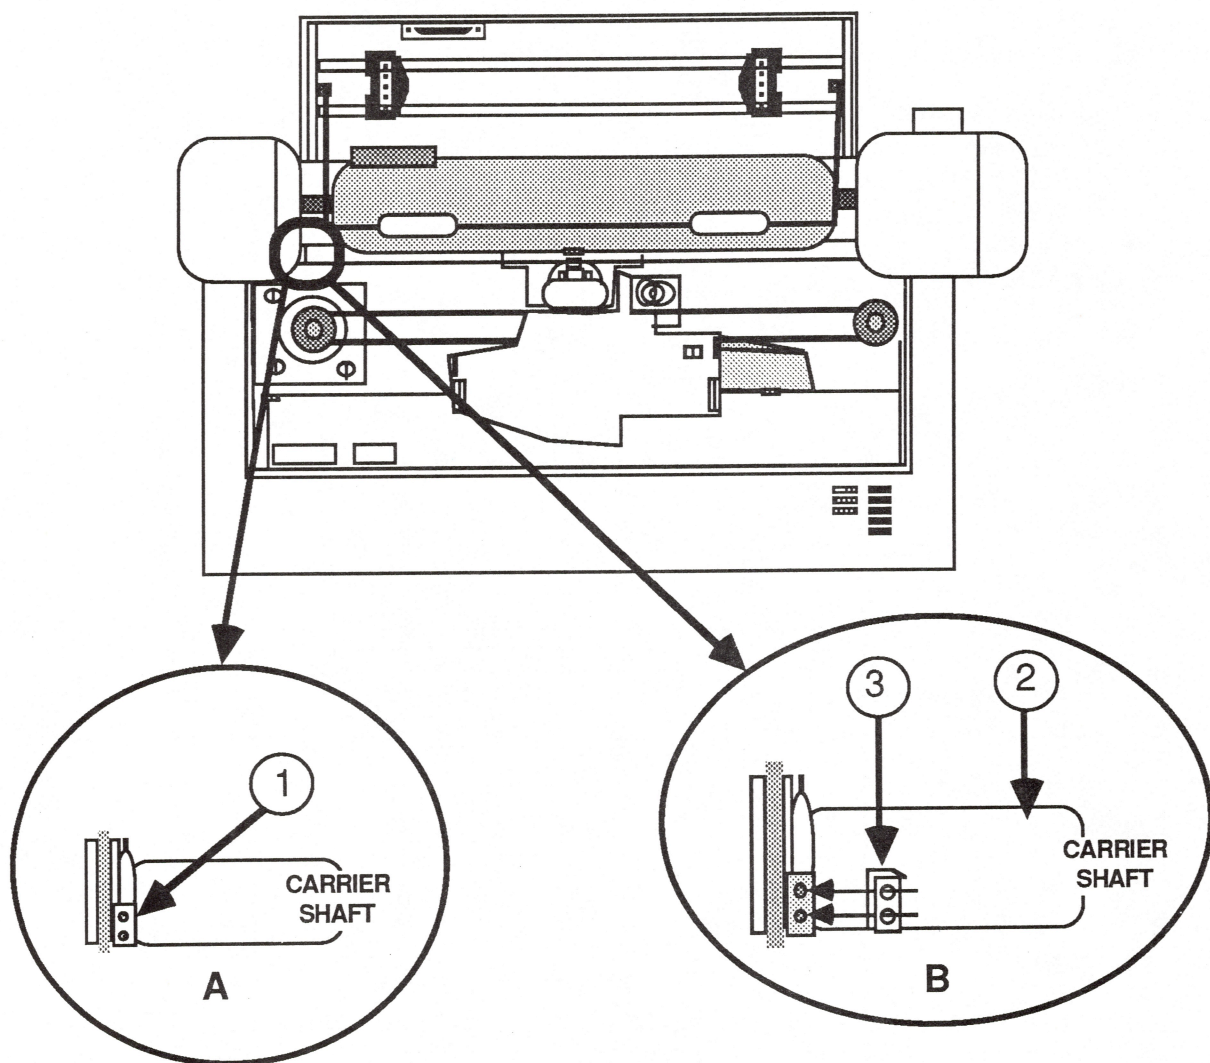

FIGURE 43
1. Look at the left side of the carrier bar (see Figure 43, Detail A, #1).
2. Push the carrier bar towards the rear of the machine (see Figure 43, Detail B, #2) and, using needlenose pliers, install the shim on the left side of the carrier bar, first inserting the two protruding tabs into the holes on the shim (see Figure 43, Detail B, #3). Slide the shim into position. Release the carrier bar.